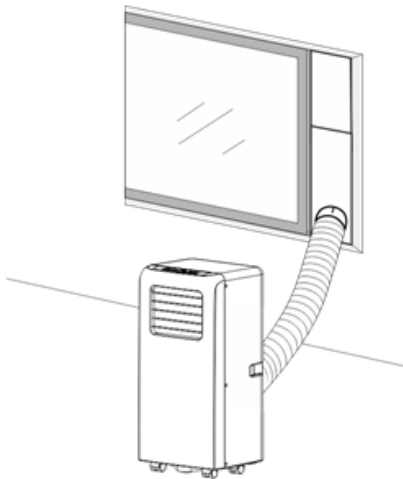
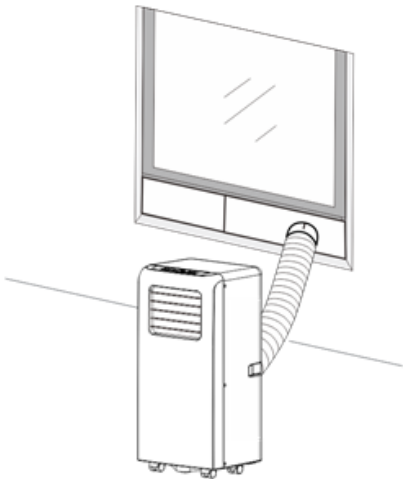

Fig.2
Fig.2a
- As shown in Fig 2 or Fig 2a on the previous page, install the exhaust hose and fit the appropriate window fitting.